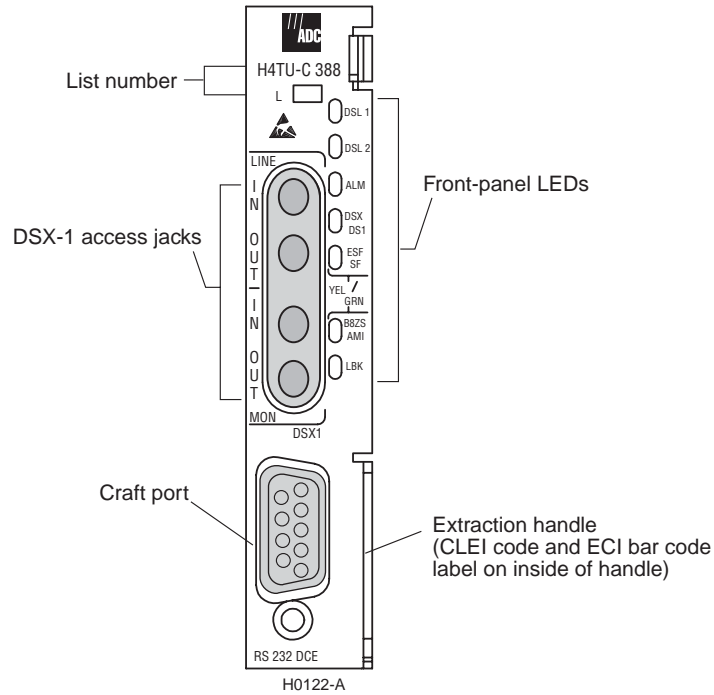

Figure 1. H4TU-C Front Panel
Figure 1 shows the H4TU-C front panel. Table 1 on page 4 describes the front-panel components. For pinout diagrams of the H4TU-C card-edge connector and craft port, refer to “Appendix A - Specifications” on page 51.
- 1 Connect a standard 9-pin terminal cable to the RS-232 craft port on the H4TU-C front panel (see Figure 1 on page 3).